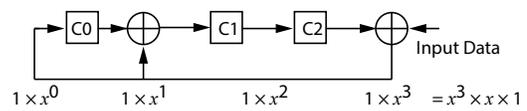

Figure 27: Manchester CRC Calculation
The Manchester serial interface uses a cyclic redundancy check (CRC) for data-bit error checking (synchronization bits are ignored by the check). The CRC algorithm is based on the following polynomial and the CRC calculation is represented graphically in Figure 27. The trailing 3 bits of a message frame comprise the CRC token. The CRC is initialized at 0b111.
1. If the IC is configured for PWM (OUTMSG_MODE = 0), the output line must be held low for at least 2 PWM periods prior to sending the Manchester entry code (as shown in Figure 27)